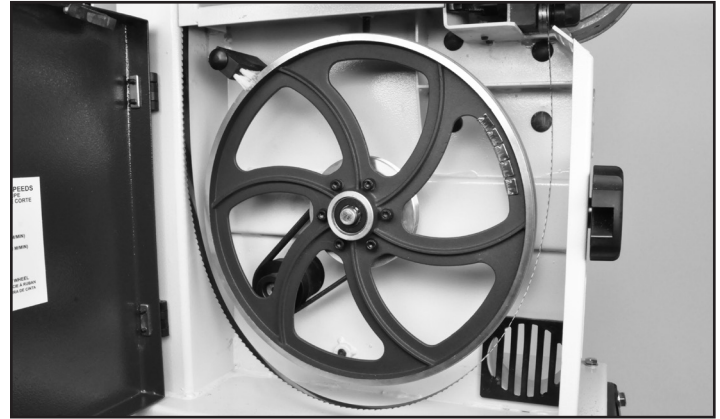

FIGURE 39
1. Release the tension on the bandsaw blade (See pages 14 & 15) and move the blade off of the lower wheel, or take the blade totally off from the saw. FIG. 39.